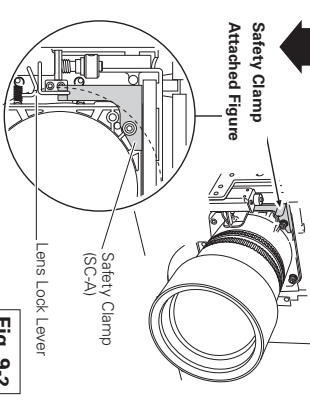

Fig. 9-2
- 3 Place the Safety Clamp in the location of the removed screw. Make sure that the Safety Clamp is mounted to hold the Lens Lock Lever in the lock position. Check the placement of the Safety Clamp. (See Fig. 9-2/10-2)